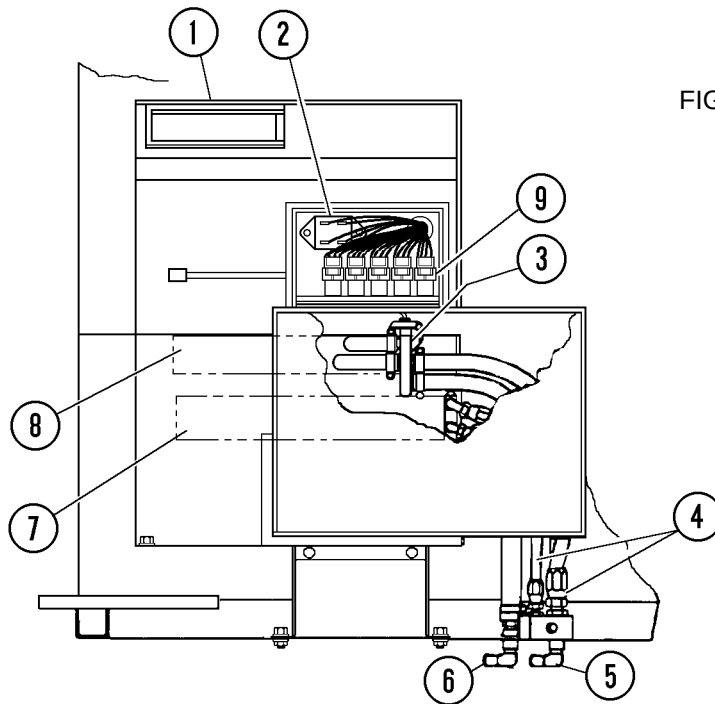

FIGURE 4-2. CAB HEATER/AIR CONDITIONER COMPONENTS
Figure 4-2 and Figure 4-4 illustrate both the heater system and air conditioning system parts contained in the cab mounted enclosure. Refer to the air conditioning system topics later in this section for additional information regarding air conditioning system components, maintenance and repair.
Five relays (9, Figure 4-2) control the air dampers, the A/C compressor, and the heater valve. All five relays require 12VDC through the coil which is supplied by a 24VDC to 12VDC converter (2).